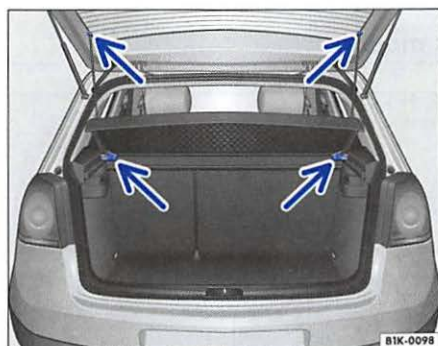

Fig. 70 Removal and installation of luggage compartment cover
- Unhook the retaining straps at the rear hatch ⇒ **fig. 70** -top arrows-.
- Pull the cover to the rear out of its side-mounted retainers ⇒ **page 71, fig. 70** -lower arrows-.